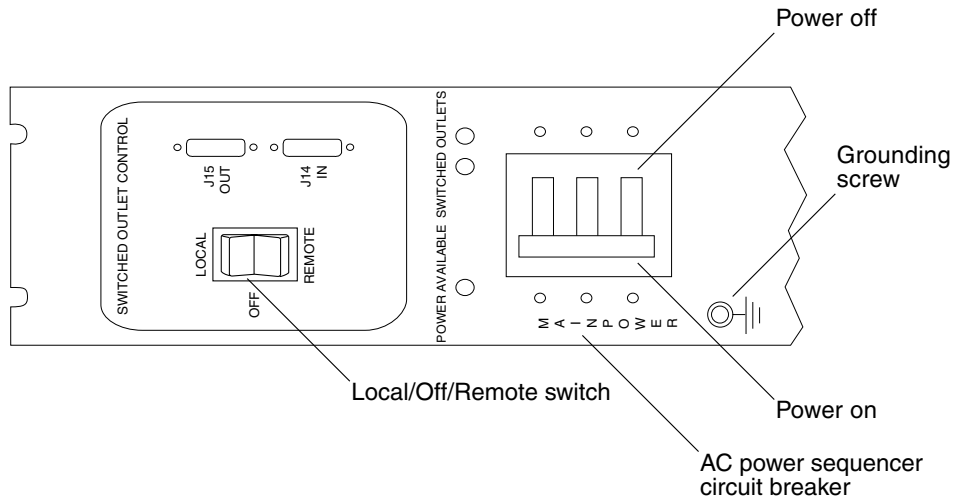

FIGURE 2-15 Rear Power Sequencer Control Panel
1. **Verify that the front and back AC power sequencer circuit breakers are both in the Off position (FIGURE 2-15).**
2. **Verify that the Local/Off/Remote switch is in the Remote position on each power sequencer (FIGURE 2-15).**
2. At the front and back of the base cabinet, set the AC power sequencer circuit breakers to the On position (FIGURE 2-15).